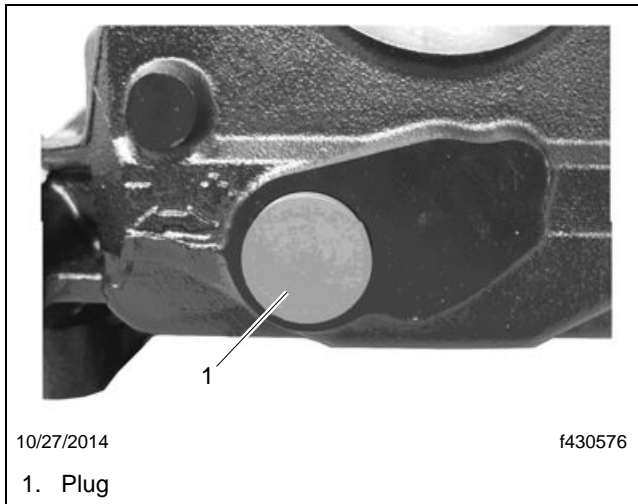

Fig. 14, Installing the Brake Caliper Plug
40. Install a new plug into the manual adjustment opening, making certain the plug has a tight seat. See **Fig. 14**.